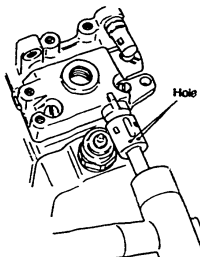

Fig. 10 Installing the cap
1. Install the sealing cap on the governor cover boss with the two holes facing upward. (Fig. 10)